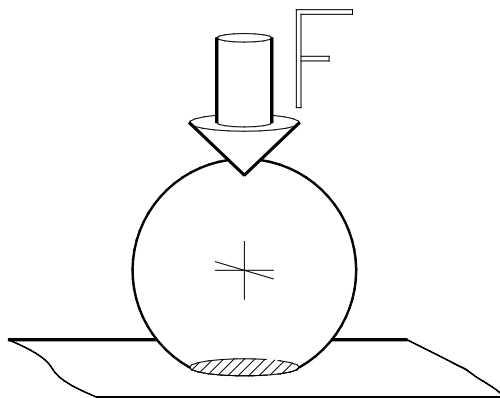

Fig. 1.5
- a) A ball lying on a flat surface makes contact at a single point. This is termed “**point contact**” (fig 1.5).